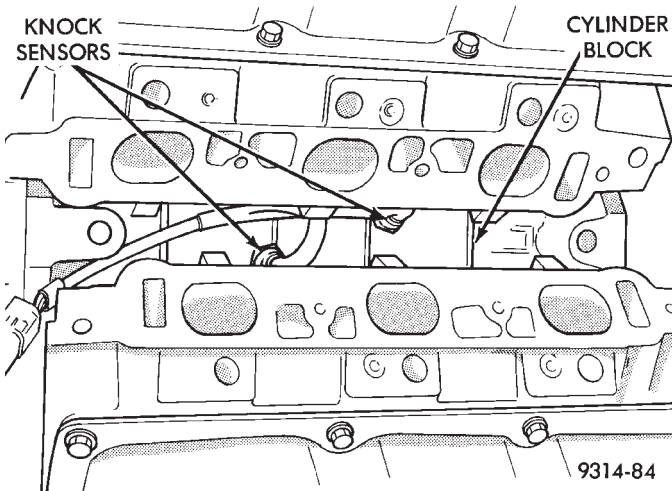

Fig. 52 Knock Sensor Location
- (1) Remove intake manifold plenum. Refer to Intake Manifold Plenum in this section.
- (2) Remove intake manifold. Refer to Group 11.
- (3) Disconnect electrical connector from knock sensor(s) (Fig. 52).